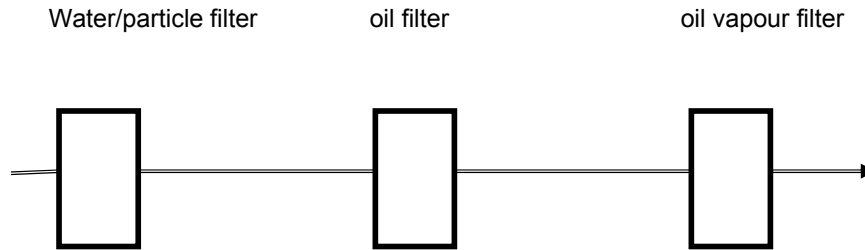

Figure 2.3 Three stage coalescing filtration system
- 2-3.8. Use a three-stage coalescing filtration system as shown in figure 2.3 when site conditions introduce moisture, oil or other contaminants into the air line.